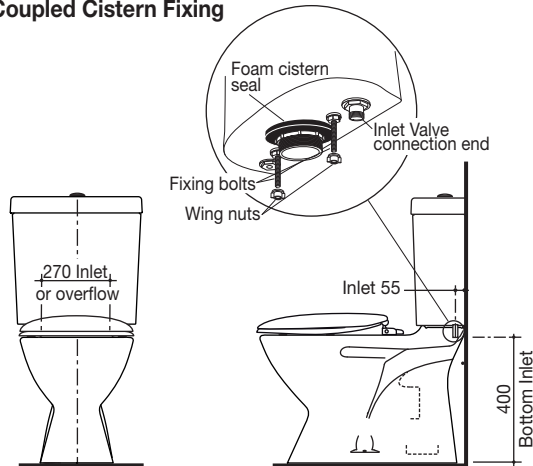

Fig. 1
- 1- Ensure the pre-fixed foam seal at base of cistern is securely attached to cistern base, as detailed in Fig. 1.